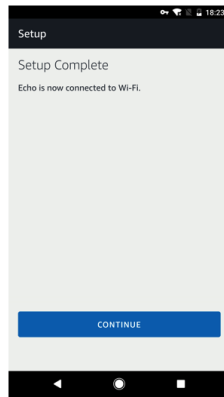
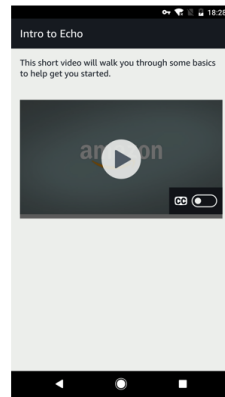

fig.15
fig.16
- Tap 'CONTINUE' when Echo is connected to the network (fig. 15). After an introduction video, tap 'CONTINUE' to finish the setup (fig. 16).